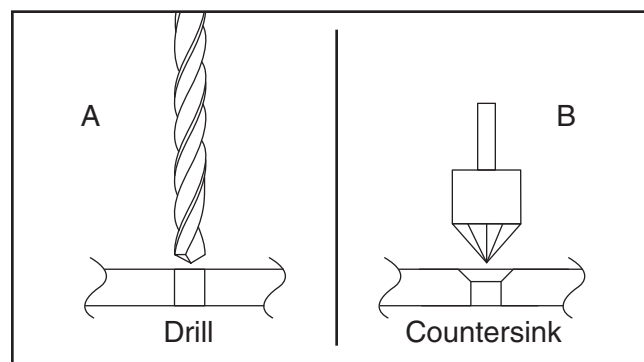

Figure 23. Example of drill hole and countersink.
9. Drill countersink holes on top surface of mounting plate, using drill holes as guides for countersinks (see **Figure 23**). This allows fasteners to sit slightly below top surface of mounting plate and reduces risk of kickback from a workpiece catching on fasteners during routing operations.